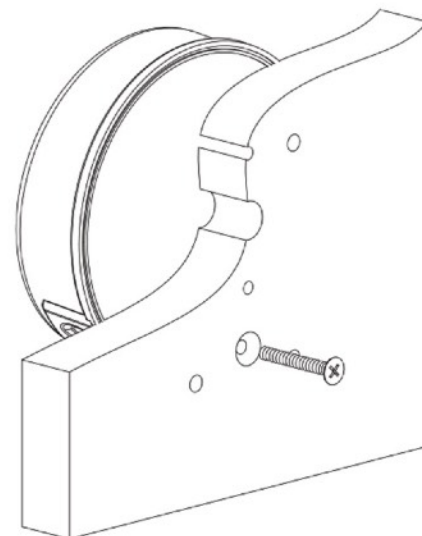

Fig. 5
4. Slide the entrypad into the mounting screws until a click is heard. The entrypad should be locked into place and should not move in either direction. Make sure that the cable will not rub or tangle on the mounting screws. It is also very important make sure the cable is not crimped or folded against itself under the Entry pad as you prepare to mount the entrypad to the safe front door or plate. (Fig. 5)
- Secure the Entrypad: Install a M4 screw at the bottom from inside safe, as shown. The Entrypad can't be capable of being removed from outside. Proper screw and installation method should be adopted to avoid being interfered with the Deadbolt Lock Body. (Fig. 5)